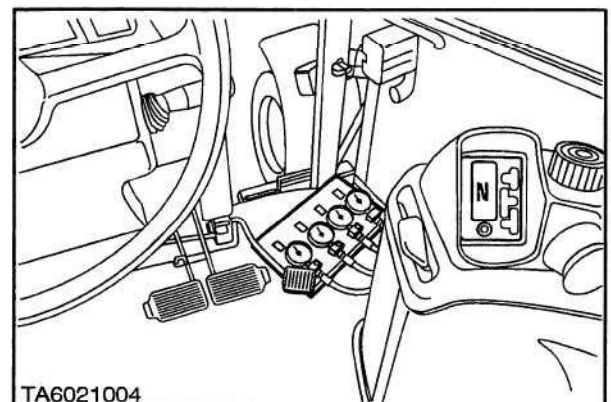

Figure 4-2-16
8. Each gauge should indicate 246 ± 14.5 lbf/in² (17 ± 1 bar) when the solenoids are activated and zero when deactivated, Figure 4-2-16.